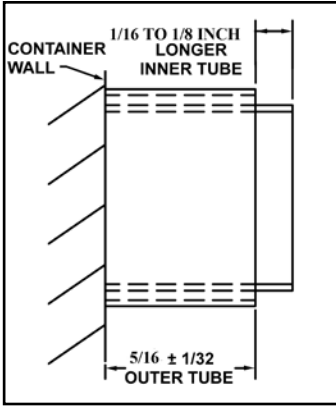

Figure 9 - Inner and Outer Tubes
- Install the inner tube on the lock case. Feed the cables through the outer tube and install the outer tube on the lock case. Measure and mark the inner tube to be 1/16 to 1/8 inch longer than the outer tube. (See Figure 9.) Remove the inner tube and cut by the same method as described in Step 5.
Note: Make sure the tubes are projecting through the container as shown in Figure 9 on the previous page. If not, the tubes are not seated properly in the lock or they were not cut to the proper length. Correct the problem before proceeding.